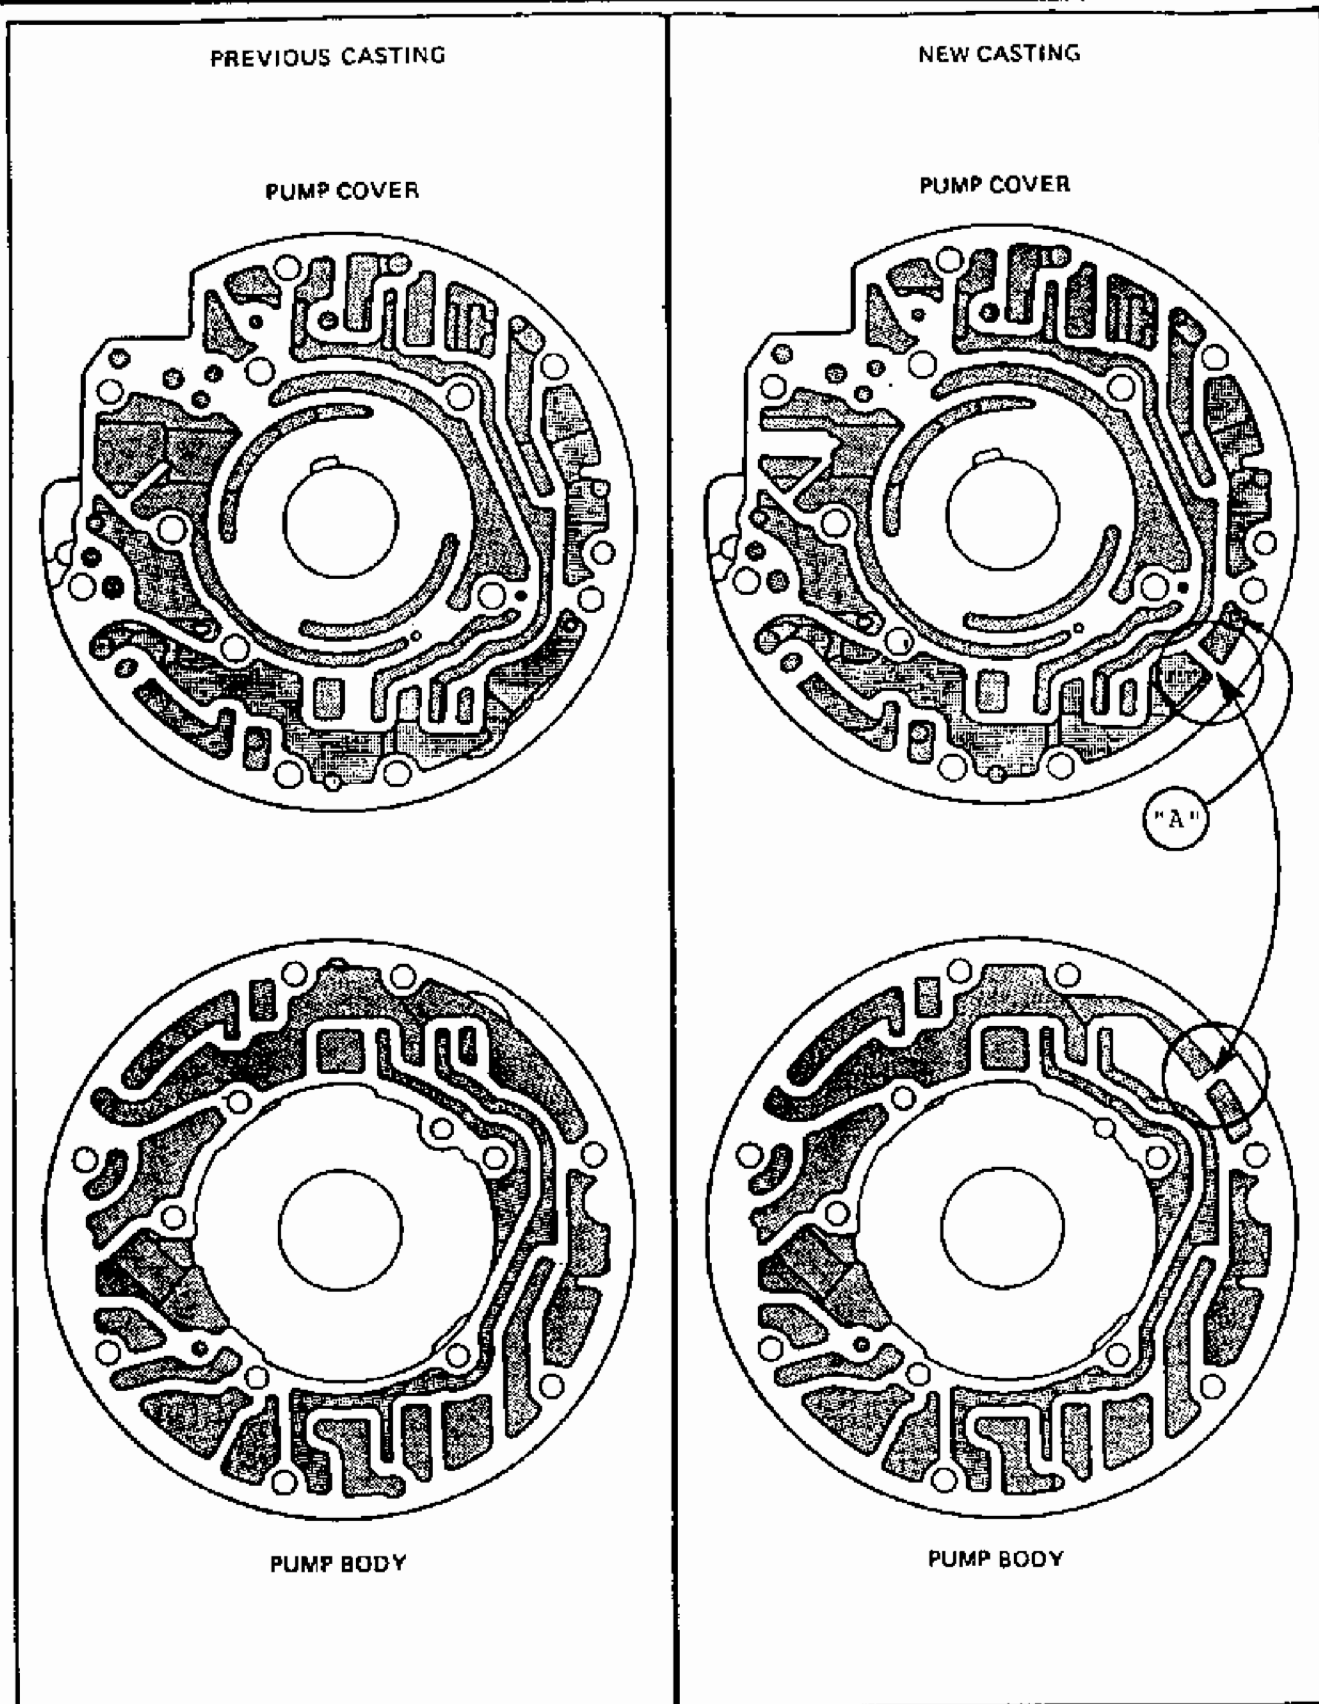
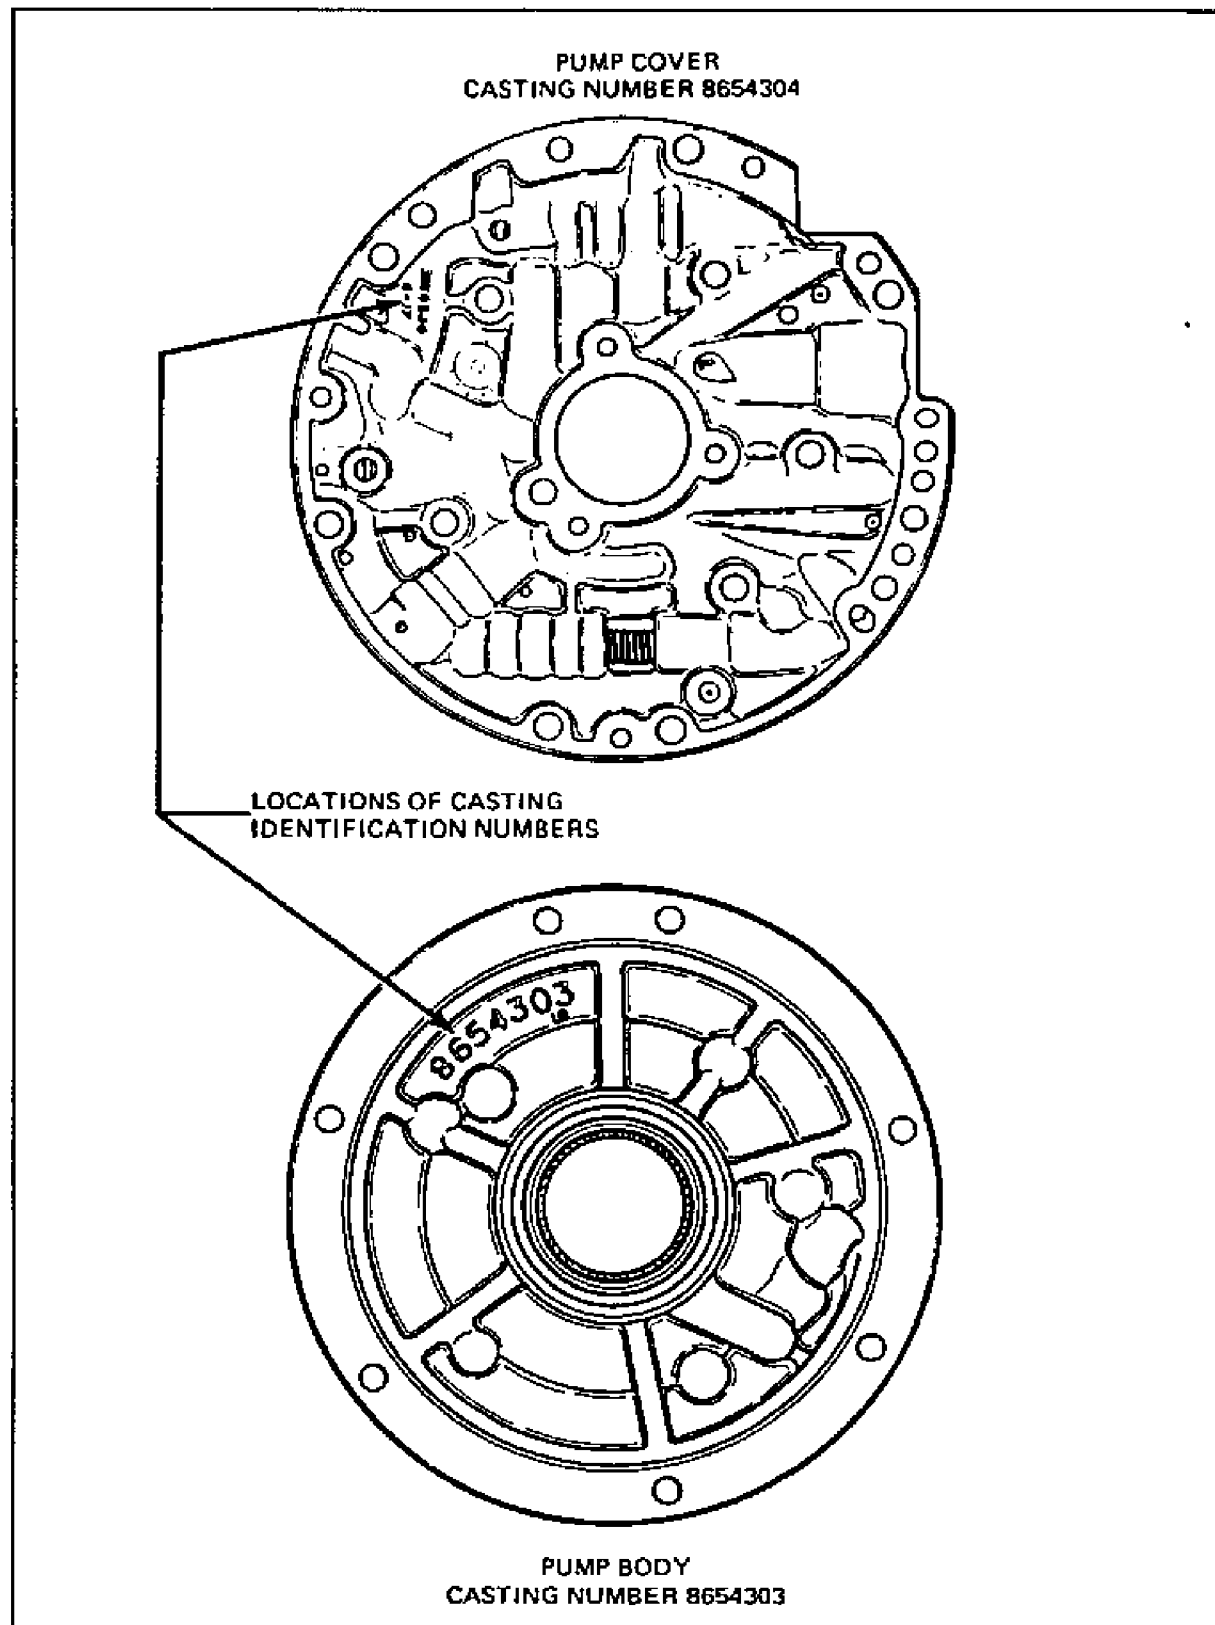

Figure 11
Figure 12
- (1) Pump Body - Oil dam added to pump body casting. Refer to Figure 11 for identification of the casting changes and Figure 12 for the reference casting number locations.
- (2) Pump Cover - Oil dam added to pump cover casting. Refer to Figure 11 for identification to the casting changes and Figure 12 for the reference casting number locations.
To use the new design pump cover (With Oil Dam), You must plug the hole marked "A" in Figure 11, and then it will be compatible with the previous design pump body. However if you are experiencing pump leakage between the pump halves you should use the "Dam Type" body and cover.